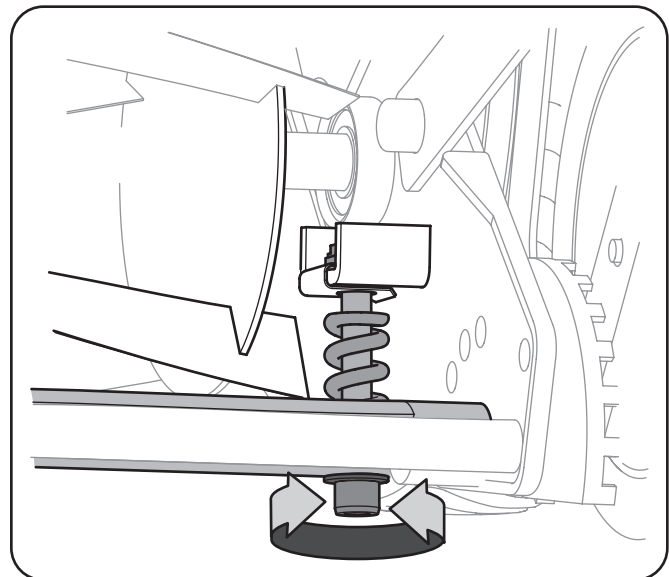

Figure 5-1
2. Using a 13mm wrench, tighten the adjustment bolts (one on each end) $\frac{1}{4}$ -turn. See Fig. 5-1.